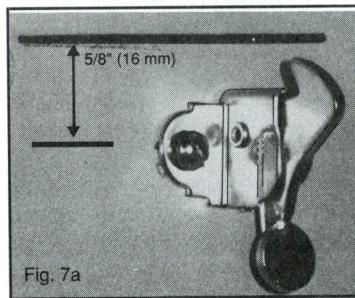

Fig. 7a
3. Install the catch so the screws are approximately $\frac{5}{8}$ " (16 mm) below the mark you just made. (See fig. 7a)